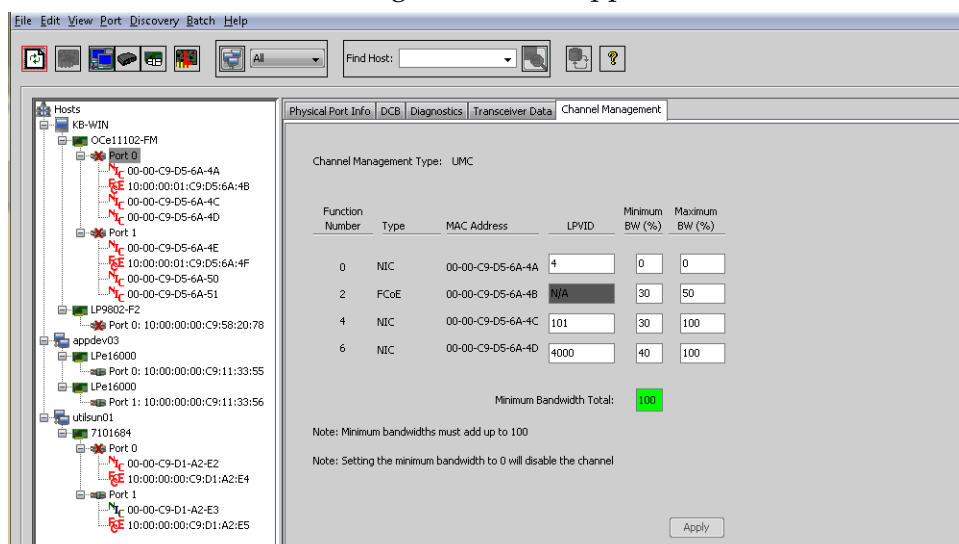

Figure 7-4 Example of the Channel Management Tab (UMC management depicted)
2. Select the **Channel Management** tab (Figure 7-4 on page 72). The appearance of the tab varies depending on the channel management type in use.